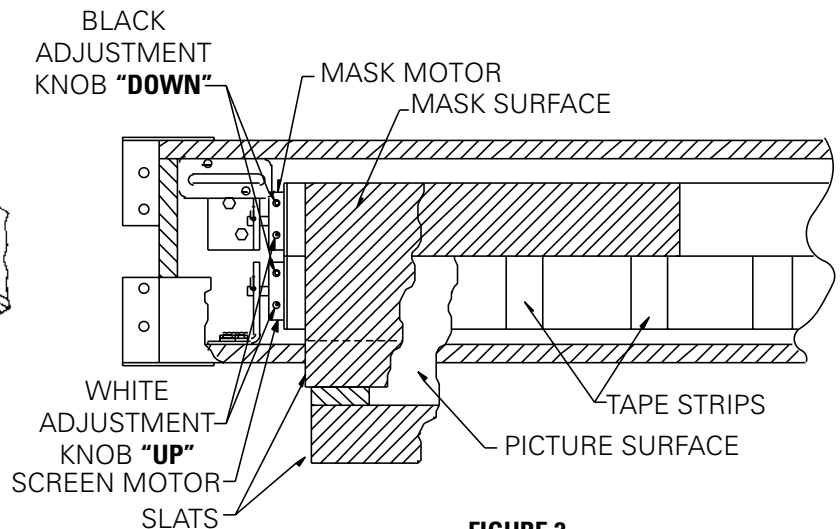

FIGURE 2
7. Carefully remove tape strips securing picture surface around roller. Slats should move freely (Fig. 2).
3. When the screen stops, turn the black "down" limit knob (Fig. 2) one-quarter turn counterclockwise. Test by raising picture surface approximately two feet, then lower again. Repeat until desired picture surface position is attained.
4. Turn the black "down" limit knob (Fig. 2) one-quarter turn clockwise. Test by raising picture surface approximately two feet, then lower again. Repeat until desired picture surface position is attained.
3. When the screen stops, turn the red "down" limit knob (Fig. 2) one-quarter turn counterclockwise. Test by raising picture surface approximately two feet, then lower again. Repeat until desired picture surface position is attained.
4. Turn the red "down" limit knob (Fig. 2) one-quarter turn clockwise. Test by raising picture surface approximately two feet, then lower again. Repeat until desired picture surface position is attained.